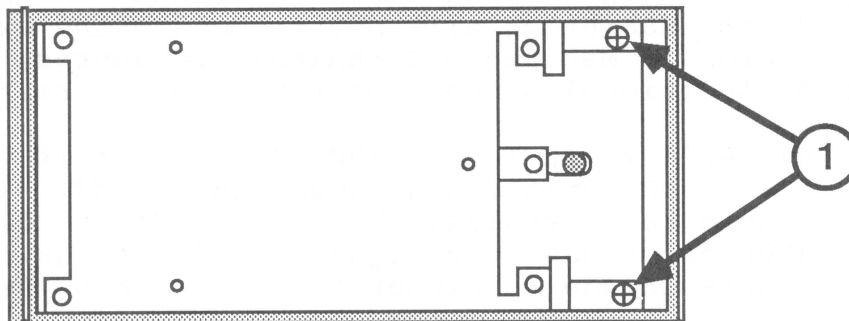

FIGURE 3
2. Remove the two screws (see Figure 3, #1).
3. Position the drive assembly on the top cover so the screw holes line up. Replace the two screws (see Figure 3, #1).